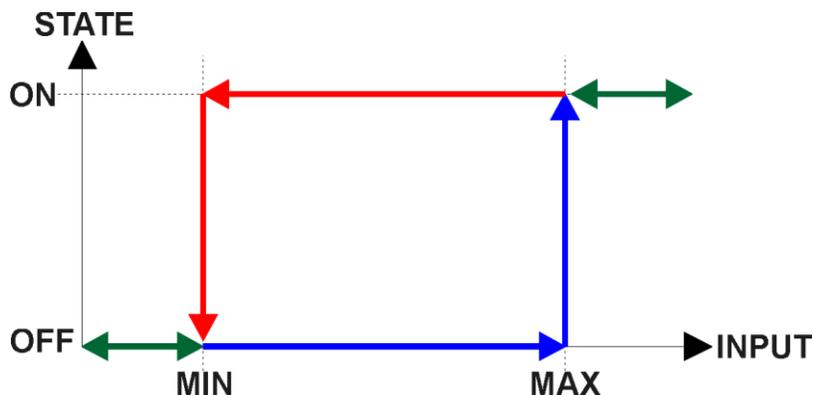

Figure 5 – Analog Input Read as Digital
There is another type of 'digital' input that can be selected when 6112h is set to 20 = Analog On/Off. However, in this case, the input is still configured as an analog input, and therefore the objects from the Analog Input (AI) block are applied instead of those discussed above. Here, Object 2040h is ignored, and 6000h is written as per the logic shown in **Figure 5**. In this case, the MIN parameter is set by object 7120h **AI Scaling 1 FV**, and the MAX is set by 7122h **AI Scaling 2 FV**.